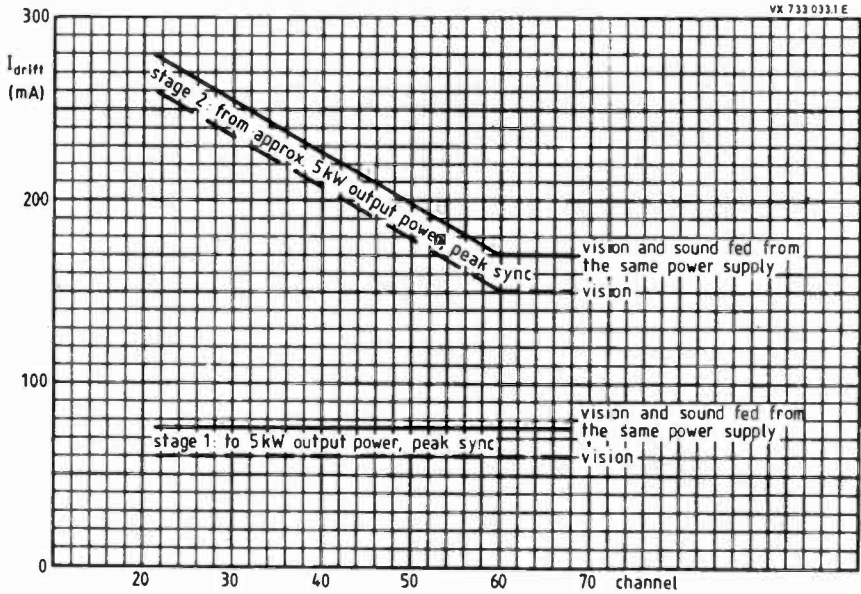

Fig. 6 Drift tube current cut-out at operation with depressed collector voltage for 20 kW transmitter.
- a) The cut-out threshold of the drift tube current is exceeded. Dependent on the peak output power this cut-out should operate in two stages, see Figs 6 and 7.